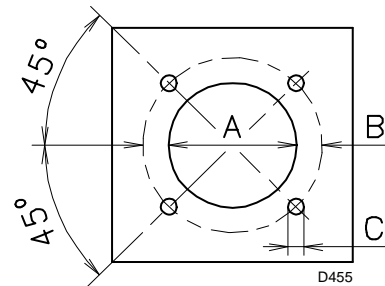

Fig. 15
Drill the combustion chamber locking plate as shown in Fig. 15 (Tab. L). The position of the threaded holes can be marked using the thermal screen supplied with the burner.
- Fit the entire burner onto the boiler hole prepared previously (Fig. 15), and fasten with the screws supplied.